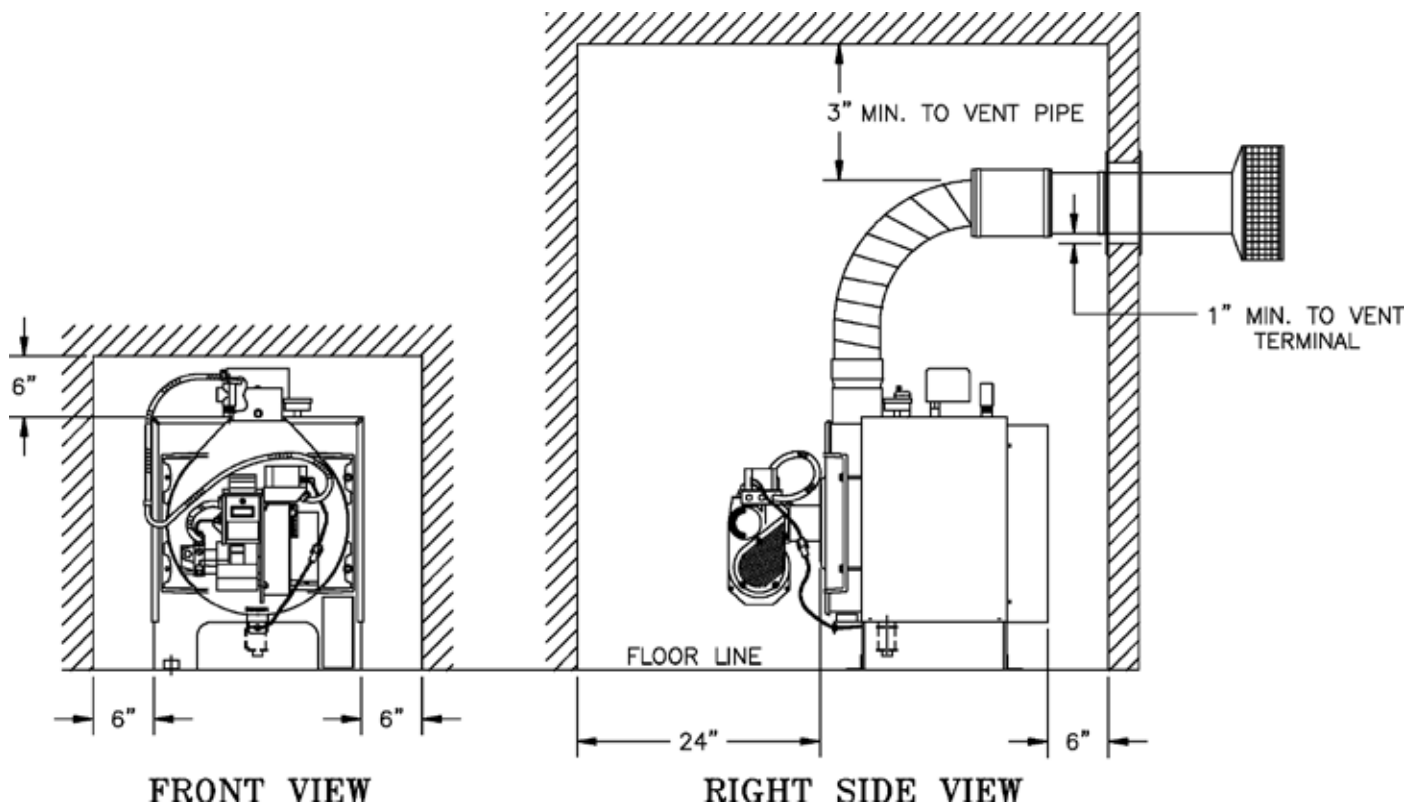

Figure 2: Minimum Clearances to Combustible Materials
5. For minimum clearances to combustible materials, see Figure 2.